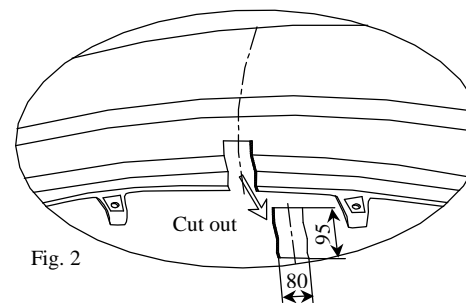

Fig. 2
7. After cuts out fragments of bumper (see fig. 2), assemble the bumper and thermal shield.